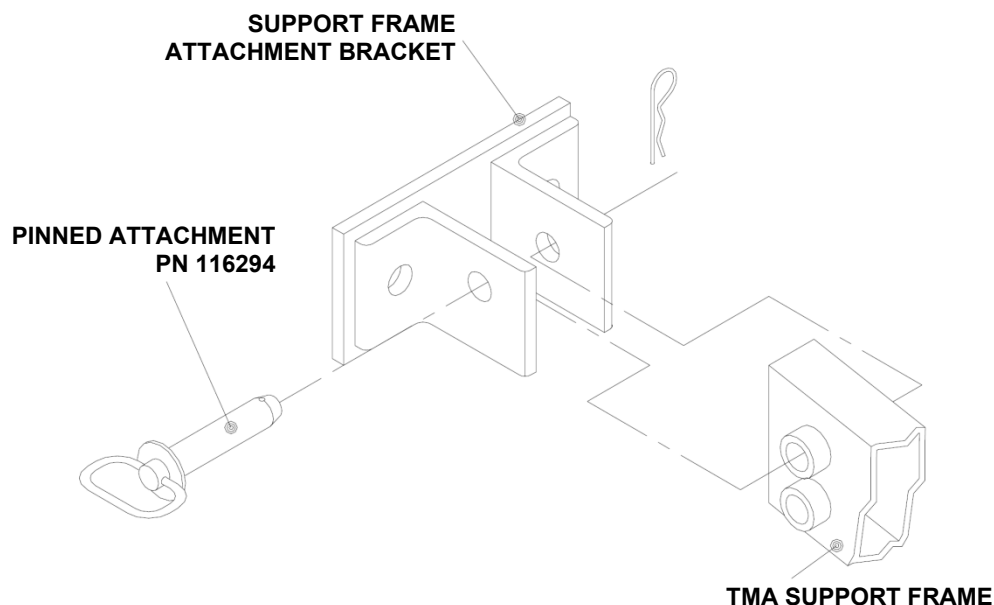

Figure 4
7. Attach the "Support Frame Attachment Bracket" (2 ea. PN 605399) to the upper holes of the Support Frame, (PN 615554) using the 1" diameter pins. Lower holes are for height adjustment if necessary (see Figure 4).